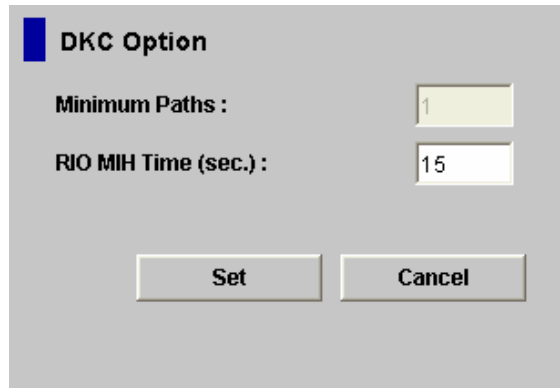

Figure 5-4 DKC Option Dialog Box
For detailed information about the options, see the next section and read explanations below Figure 5-4.
The DKC Option dialog box (see Figure 5-4) allows you to set the logical path options and storage system options. These options will apply to the local storage system and the corresponding remote storage system.
The DKC Option dialog box appears (Figure 5-4).
7. On the DKC Option dialog box, change the options as desired. For detailed information about the options, refer to explanations below Figure 5-4.